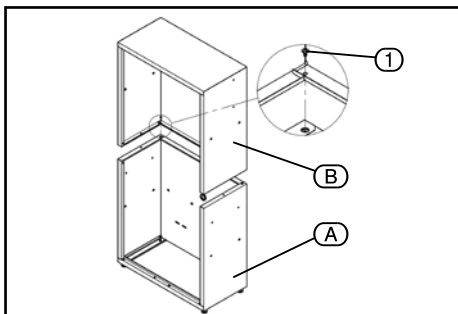

FIG. 3
8.3 CABINET CONNECTION – FIG. 3